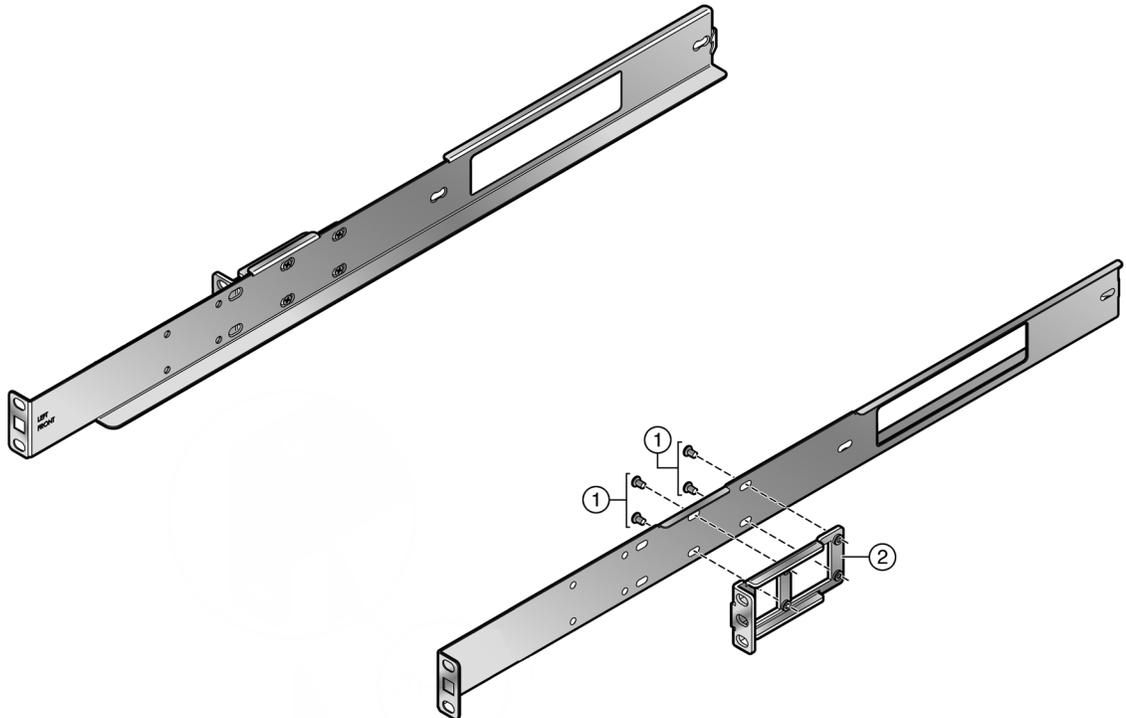
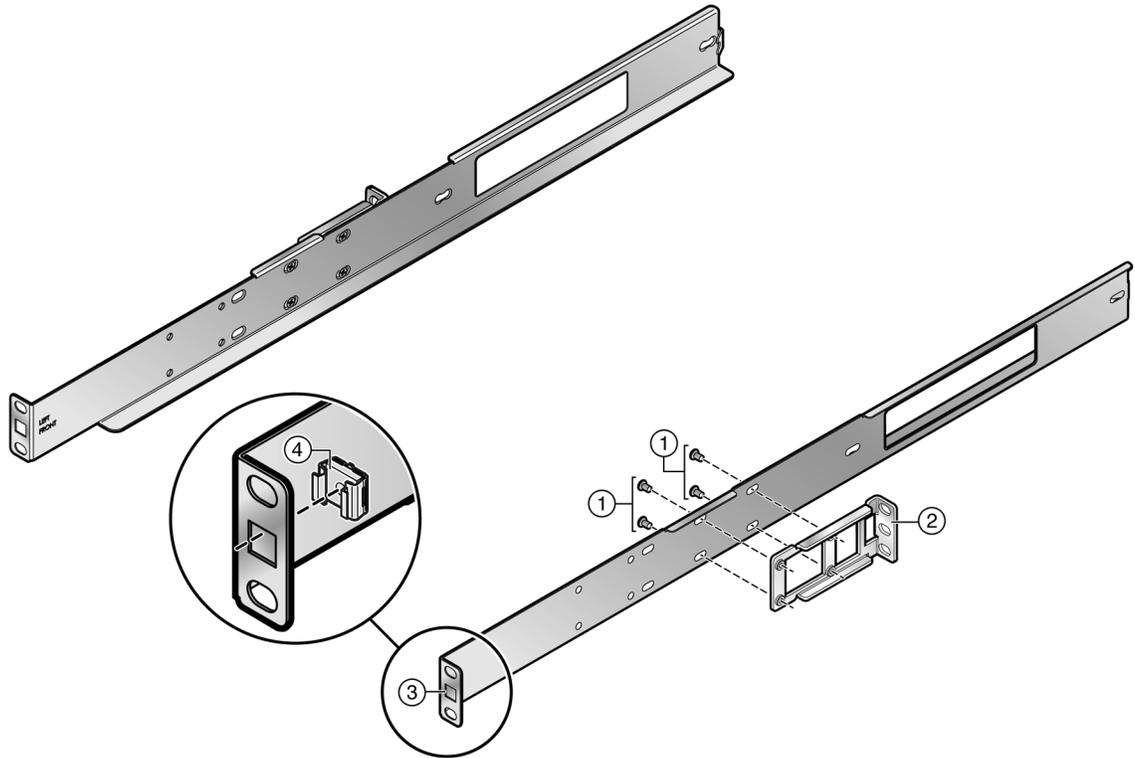

Figure 28: Securing Mid-Bracket to Rail 7.25-inch Flush Mount
Figure 29: Securing Mid-Bracket to Rail 7.25-inch Mid Mount
- 7.25 inches in from the rack mount rail ear for securing to the rear rack post flange in a 7.25-inch rack post flush mount configuration. See Figure 28: Securing Mid-Bracket to Rail 7.25-inch Flush Mount on page 64.
- 7.25 inches in from the rack mount rail ear for securing to the front rack post flange for a mid-mount configuration (the rear rack post flange is not used in a mid-mount configuration). See Figure 29: Securing Mid-Bracket to Rail 7.25-inch Mid Mount on page 65.
- 1 Align the mid-bracket (callout 2) with the four rail slots as shown in Figure 28: Securing Mid-Bracket to Rail 7.25-inch Flush Mount on page 64 for flush mount or Figure 29: Securing Mid-Bracket to Rail 7.25-inch Mid Mount on page 65 for mid-mount assembly.
- 3 If the assembly will be used in a mid-mount configuration, insert a cage nut (callout 4, Figure 29: Securing Mid-Bracket to Rail 7.25-inch Mid Mount on page 65) that comes with the kit in the rail ear square opening (callout 3, Figure 29: Securing Mid-Bracket to Rail 7.25-inch Mid Mount on page 65).